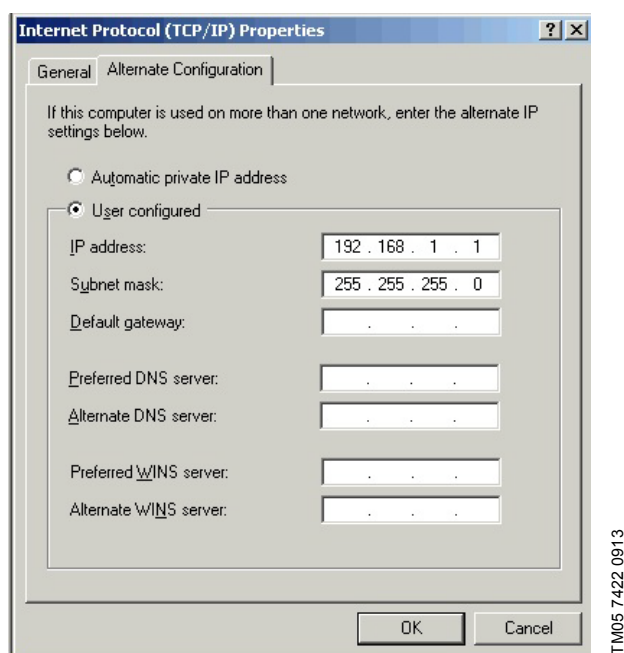

Fig. 23 Example from Windows XP
7. Configure an IP address and subnet mask to be used by your PC. See fig. 23.